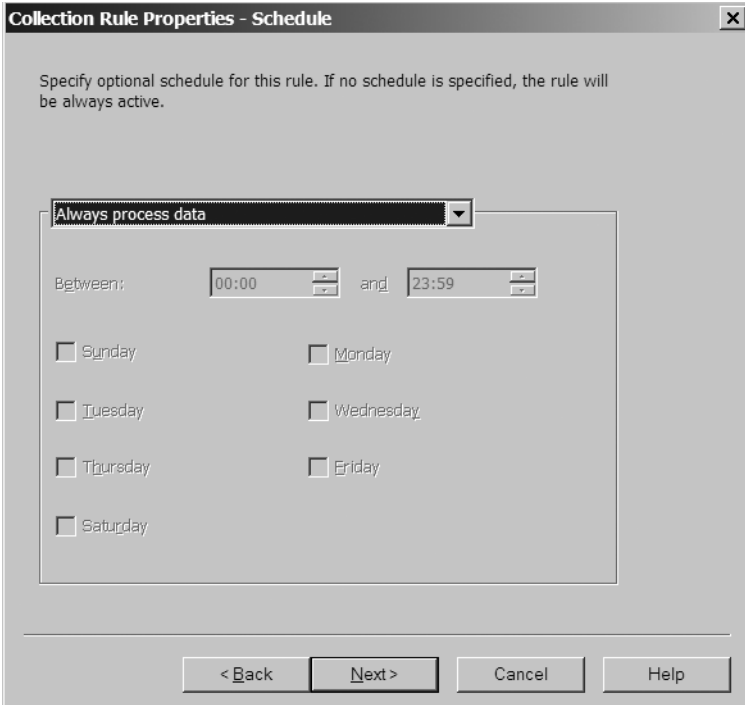

Figure 3-8. *Schedule to process data*
6. From the drop-down menu in the Collection Rule Properties - Schedule window, Select Always process data, and then click Next. This is shown in Figure 3-8.